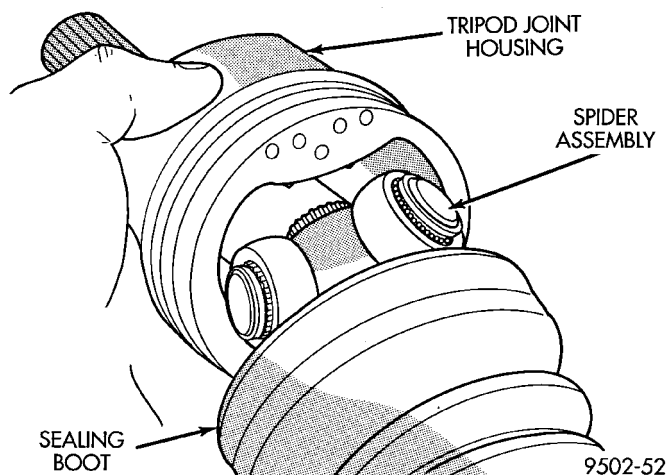

Fig. 27 Spider Assembly Joint Removal from Housing
(3) Slide the interconnecting shaft and spider assembly out of the tripod joint housing (Fig. 27).